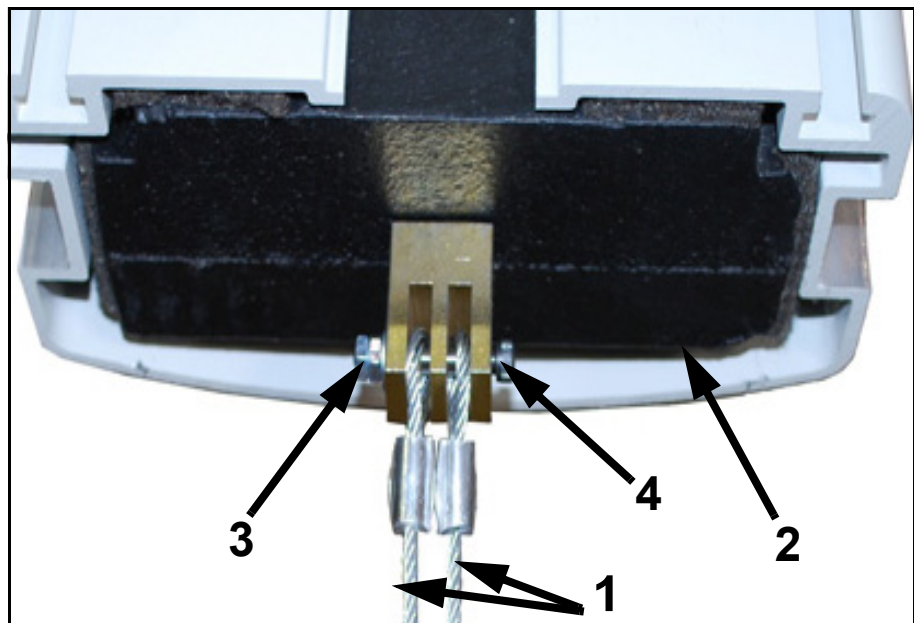

Figure 6-6. Counterweight Positioning (Typical)
- 9 Pull on the cable (1 in Figure 6-6) to drag the counterweight (2) to the top of column as shown below.
- 10 Unscrew the two nuts (3) and remove screw (4).